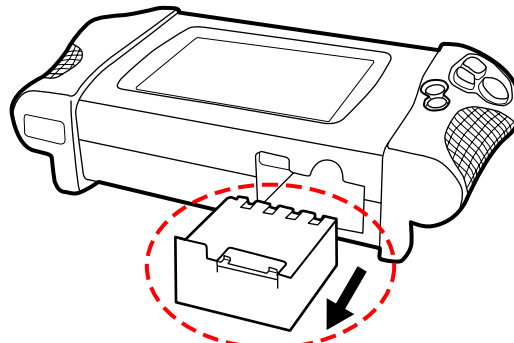

Figure 6-2 Battery location
1. Remove the old battery pack (Figure 6-2).